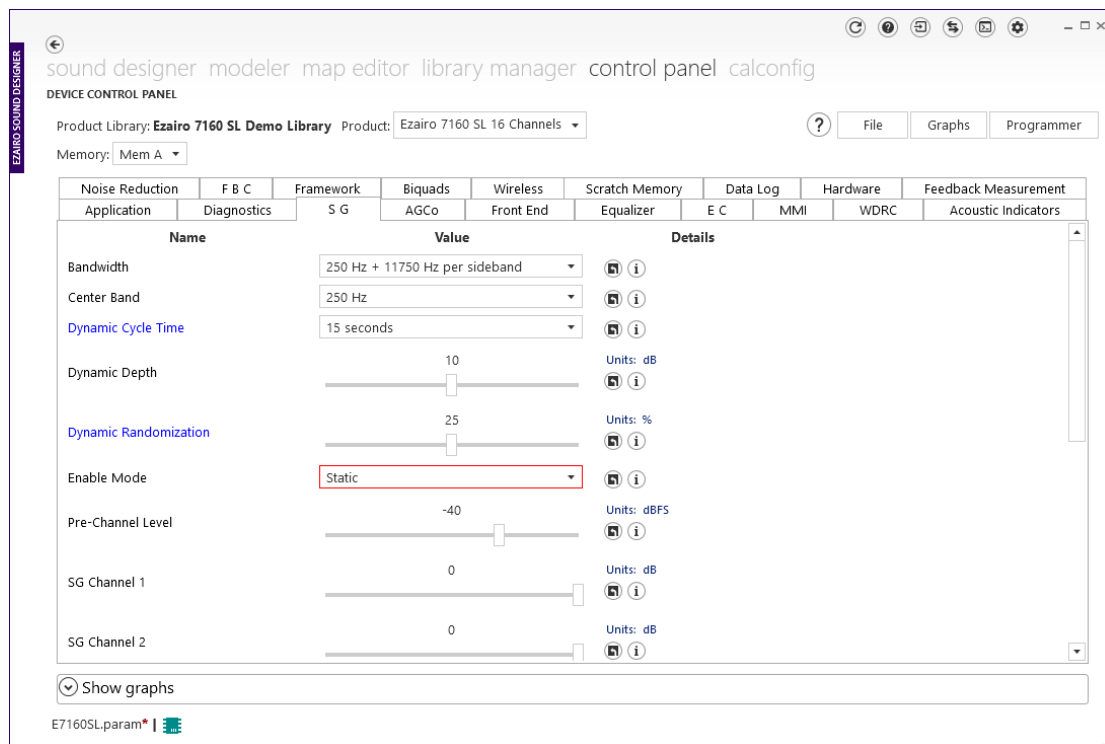

Figure 13. Enabling the Sound Generator
4. Enable the sound generator by selecting **Static** from the drop-down menu for the **Enable Mode** parameter. The Control Panel screen needs to look like Figure 13, below: